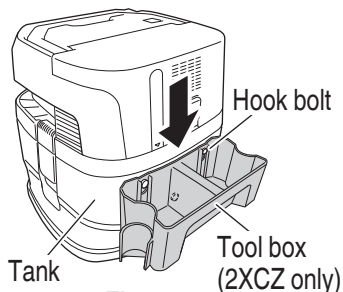

Fig. 26
- (3) Tool box assembly (see **Fig. 26**)